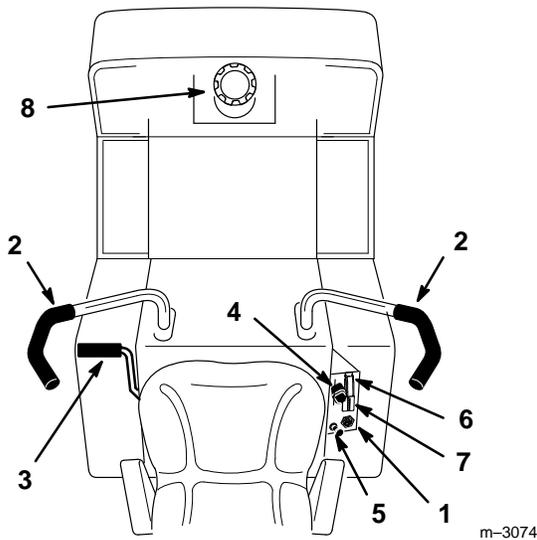

Figure 1
Become familiar with all the controls (Fig. 1) before you start the engine and operate the machine.
1. Release pressure on the motion control levers they automatically return to neutral (Fig. 1).